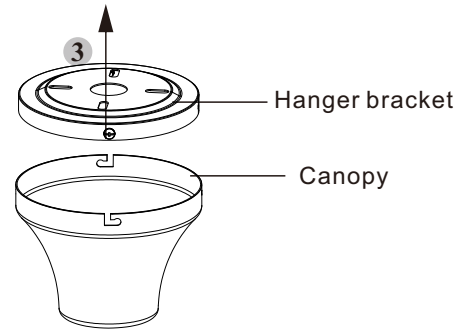

Figure 7b
b. After removing the screws, rotate the hanger bracket counterclockwise to separate it from the canopy. (Fig. 7b)